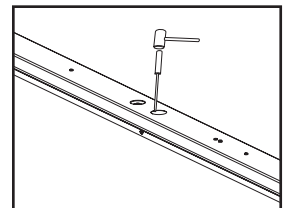

Fig. 2
4. Remove appropriate knockout(s) for power supply wiring. (Fig. 2)